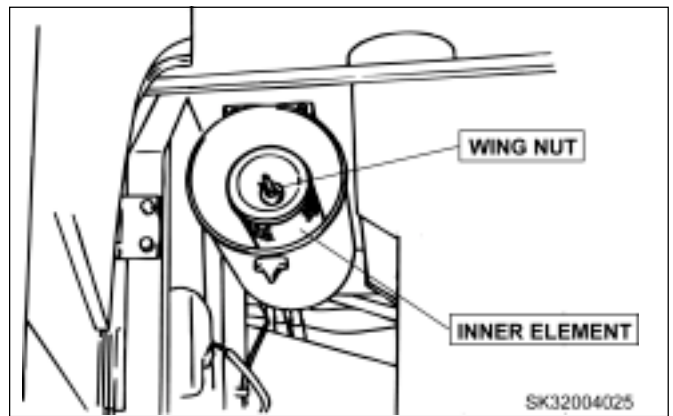

FIGURE 4.14A
4. Remove the wing nut and air cleaner inner element from the housing. See Figure 4.14A.